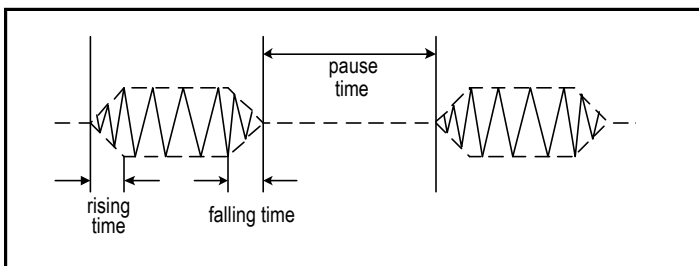

Figure 12. Teletax Signal
The teletax signal is used to sum the telephone fee according to the calling time and tariff. The frequency of teletax signal carrier can be selected as 12 kHz or 16 kHz (± 50 Hz) by Global Command 19, while the amplitude of the teletax signal on specific channel can be programmed by Teletax Gain Setting bits (TGS[7:0]) in Local Command 3. When a '1' appears on Teletax Ramp Start bit (RS) of Local Command 10, the teletax signal will be output from the VOUT pin on the corresponding channel with a $16 \text{ ms} \pm 10\%$ rising time. This teletax signal will last until a '0' on the RS bit for the same channel. It has a falling time of $16 \text{ ms} \pm 10\%$, as shown in Figure 12.